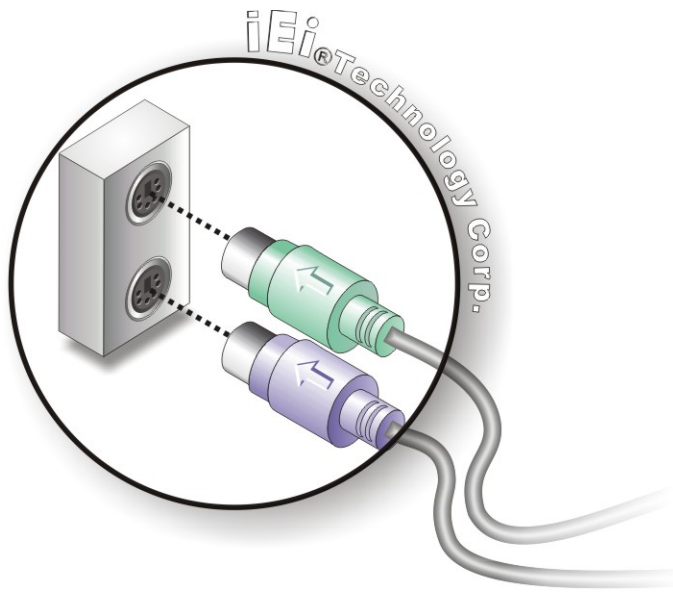

Figure 4-20: PS/2 Keyboard/Mouse Connector
Step 2: **Insert the keyboard/mouse connector.** Insert a PS/2 keyboard or mouse connector into the appropriate PS/2 connector on the external peripheral interface connector. See **Figure 4-20**.